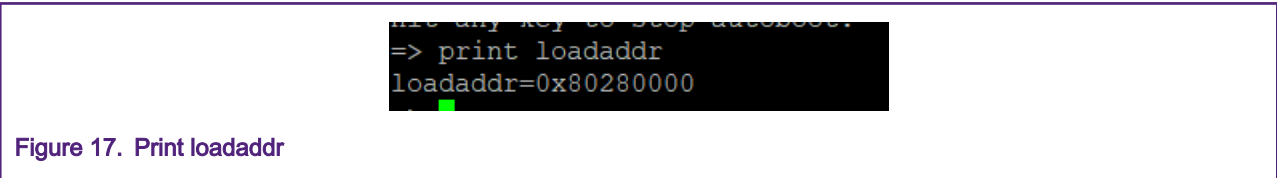

Figure 17. Print loadaddr
1. Set a hardware breakpoint to kernel load address Figure 17